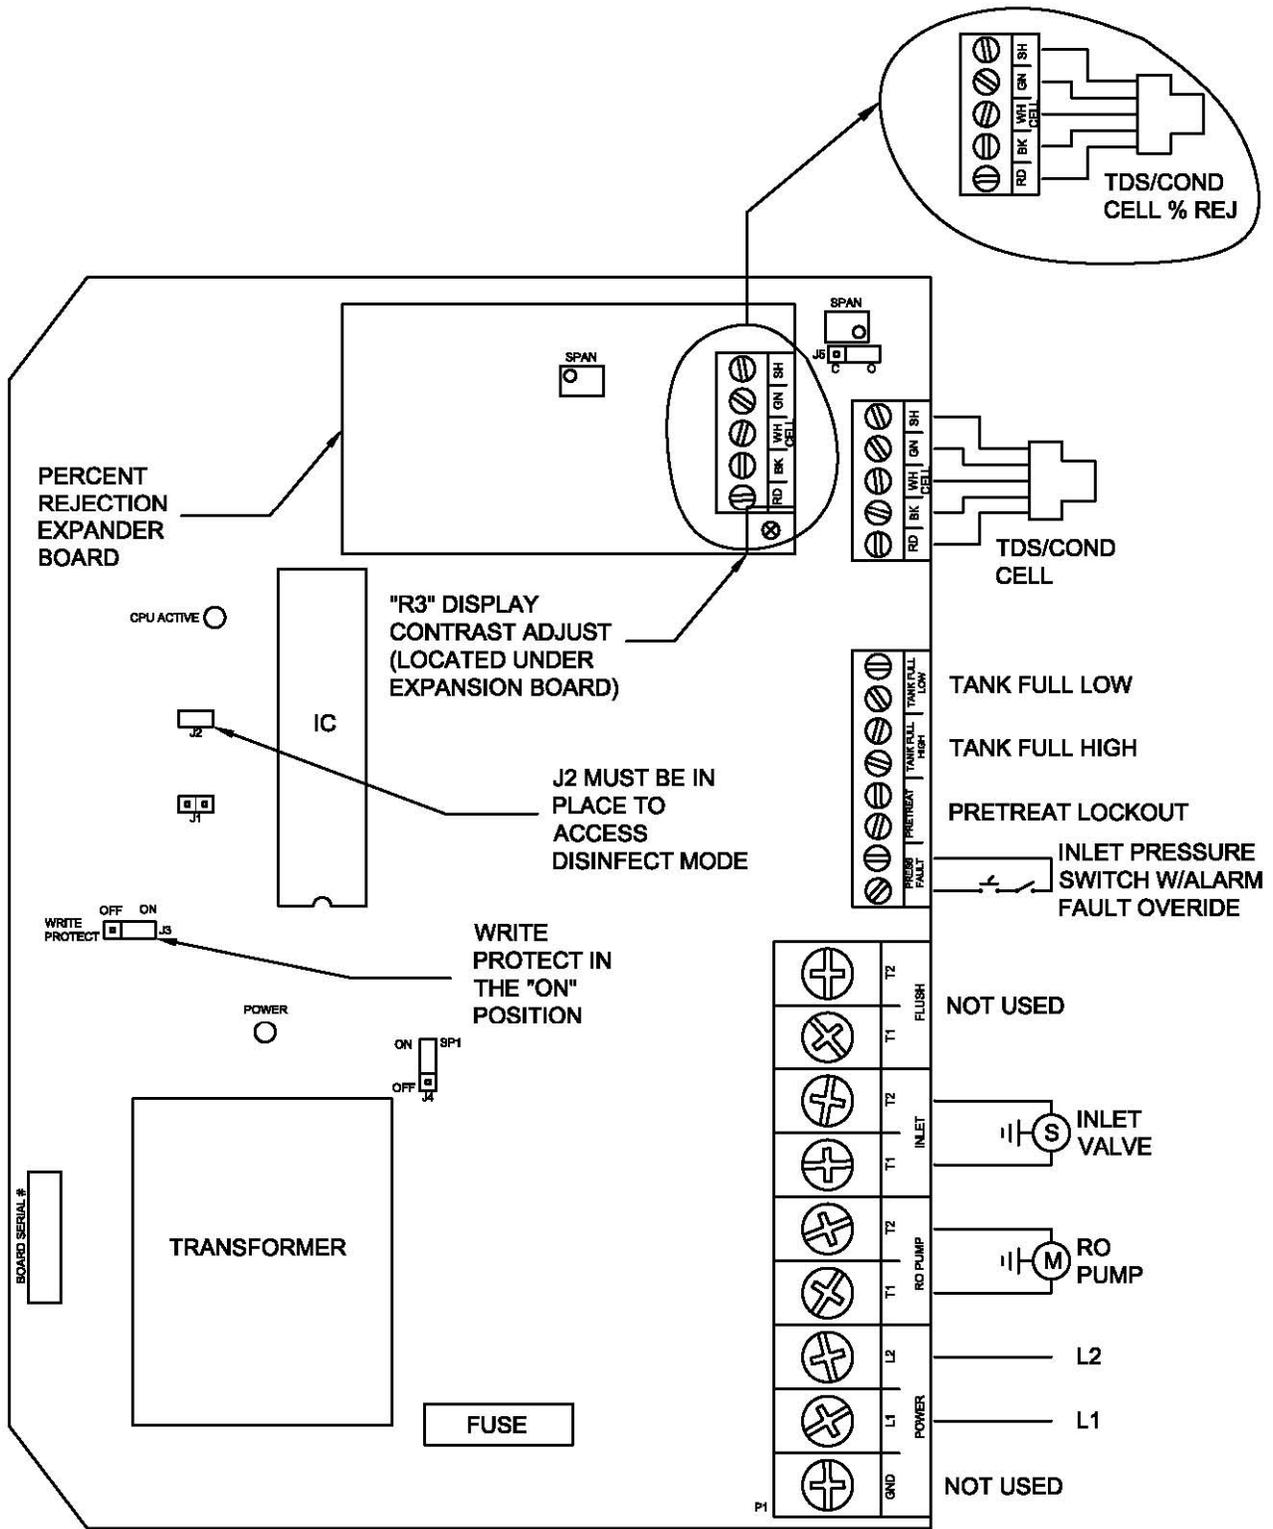

FIGURE 6.2
**(NOTE: The J2 jumper must already be installed to make this an active mode. Ref. Fig. 6.2).**
Refer to Figure 6.2 for adjustment location (SPAN). To calibrate the Conductivity, place the cell in a known standard solution. Adjust the span adjustment for the correct reading. If the cell is installed, the unit can be calibrated by taking a sample from the PRODUCT TEST PORT and testing it with a known, calibrated meter. Adjust the span control until the reading matches the meter.
1. Refer to Figure 6.1 for the location of the keys used to display or change the Setpoints and Figure 6.2 for the location of the write protect jumper, J3. For the unit to be able to accept a change in a Setpoint, the shorting jumper must be in the WRITE PROTECT OFF position (center and left pins).